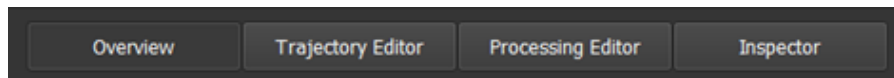
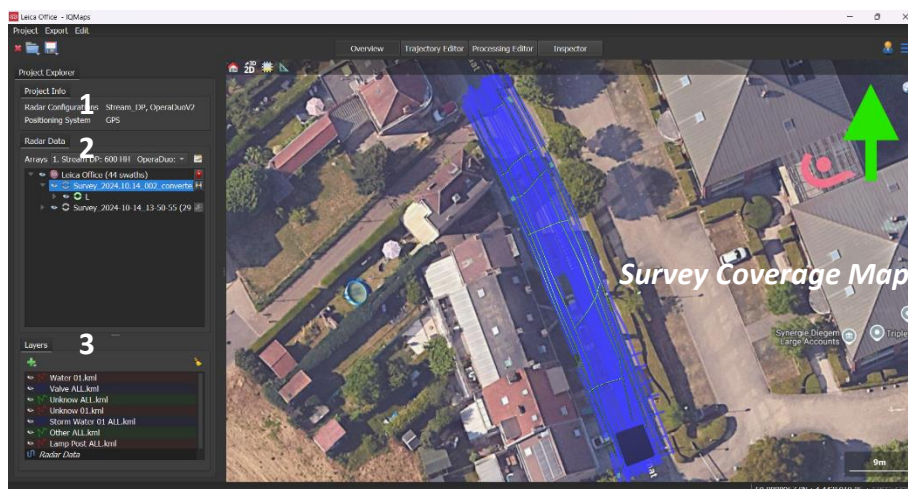

Fig. 39 Project tabs
Fig. 40 IQMaps Project Overview page with indication of North direction (green arrow)
As IDS GeoRadar data set is uploaded on **IQMaps** and a project is created, IQMaps **OVERVIEW** window page shall pop up (Fig. 39 and Fig. 40) and the data set NORTH direction is always oriented as indicated by the green arrow.
- **ON THE LEFT** side panel of Fig. 40, it is located the Project Explorer tab, including three tabs:
- **ON THE RIGHT** side panel of Fig. 40, it is located the survey coverage (the blue lines) overlapped to a base map (selectable by the User